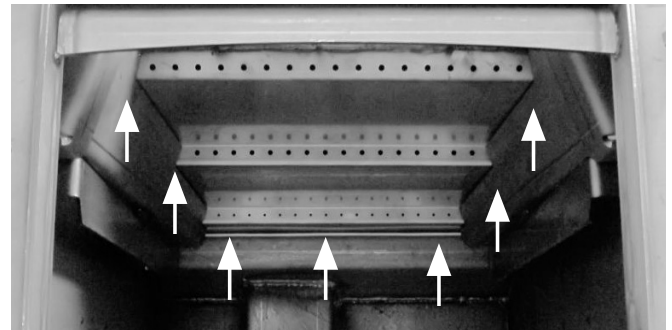
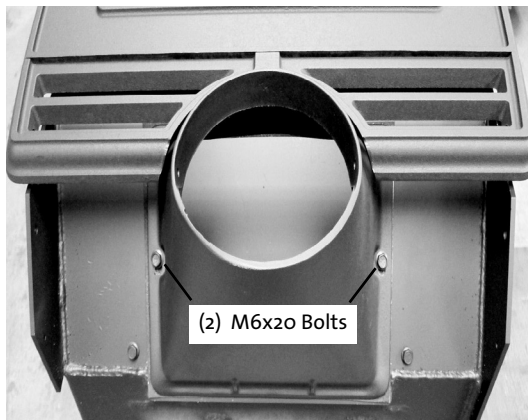

Figure 33. Verify manifold is seated properly
Figure 32. Remove (2) M6x20 bolts for smoke outlet
5. With one hand on the inside of the smoke outlet holding the M6 flange nut, use a 10mm open-end or socket wrench to remove the (2) M6x20 bolts from smoke outlet. Place the smoke outlet out of the way. See fig. 32.
6. Use a 13 mm open-end or socket wrench to remove the (2) M8 flange nuts with M8 fender washers retaining the top plate assembly. Access through smoke outlet opening is adequate.
13. Resecure the secondary air manifold with turbulator to the stove. Use the 10mm open-end or socket wrench to install the (2) M6x16 bolts into rear of stove.
14. Looking through the front door, verify the lip of the manifold is inside firebox air channel and that the manifold is contacting the gasket evenly. Ensure that the gasket is not hanging down. The manifold should rest evenly on both side supports. Readjust manifold if necessary. See fig. 33.